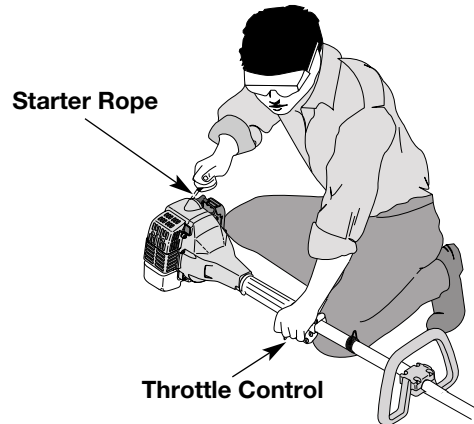

Fig. 3
1. Release your hand from the throttle control (Fig. 3). Allow the engine to cool down by idling.
WARNING: Avoid accidental starting. Be in the starting position when pulling the starter rope (Fig. 3). The operator and unit must be in a stable position while starting to avoid serious personal injury.
5. With the unit on the ground, squeeze the throttle control and hold. Pull starter rope briskly (Fig. 3). Continue pulling until the engine sounds as though it wants to run (normally 2 to 5 pulls).
7. Pull starter rope briskly 1 to 3 times to start the engine (Fig. 3).